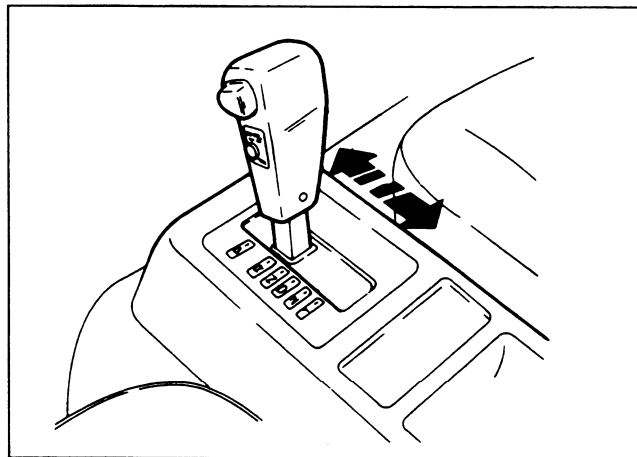

Figure 1. Moving Gear Selector
Move the gear selector slowly through all the gear ranges (figure 1).
5. Return the selector to either "P" or "N" (figure 1).